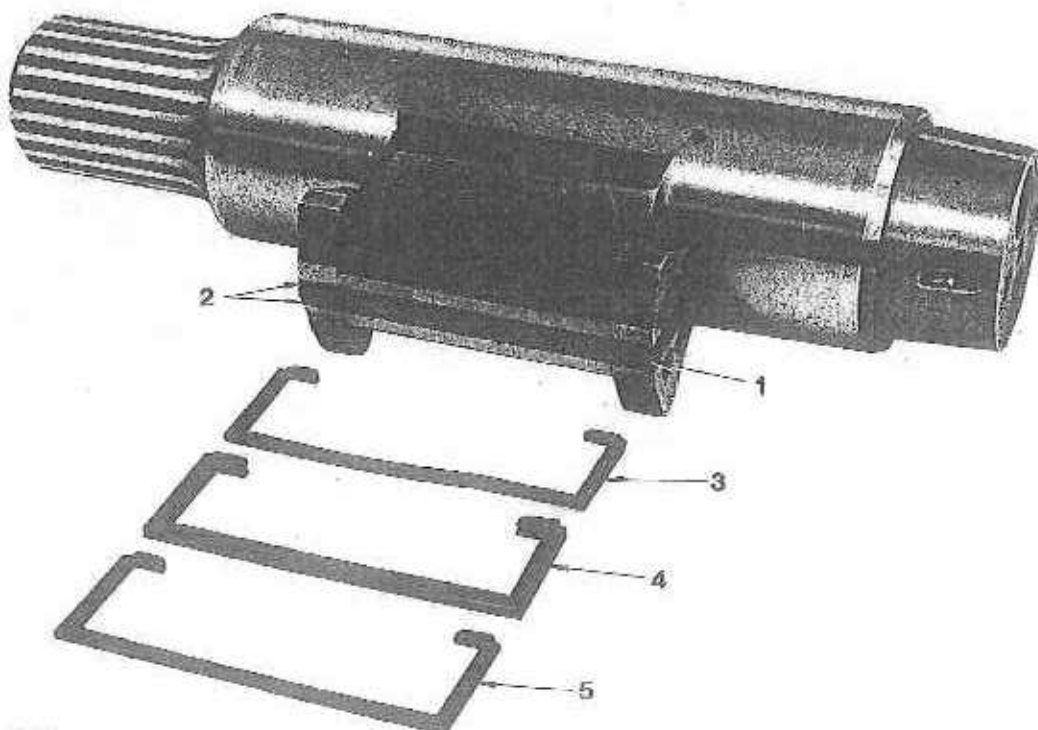

FIG. 14
2. (Fig. 14) Carefully prise out the old seal (1) and back-up washer (2) from the groove in the vane.
5. Fit one back-up washer (3) in the groove. Next fit the oil seal (4) and finally, the second back-up washer (5).